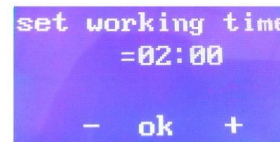

Fig 5
2. press  button enter Fig 5 status, press  or  to adjust the time(15 minutes to 4 hours ,longer than 4 hours will display “NO” which means that the working timer has been disabled and the generator will continue to work until it is manually turned off.), press and hold the  or